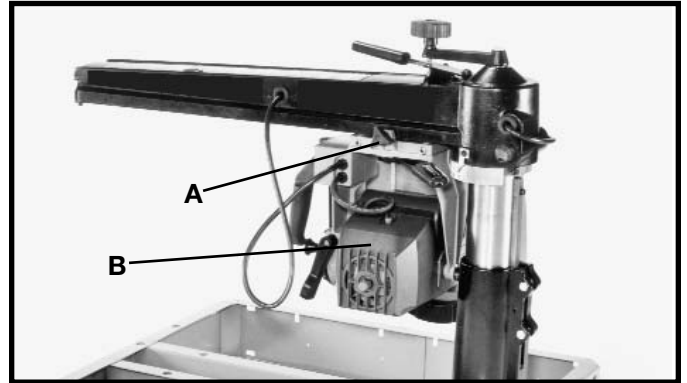

Fig. 8
1. Loosen lock knob (A) Fig. 8, and move cutting-head (B) to the rear position as shown. Then tighten knob (A).